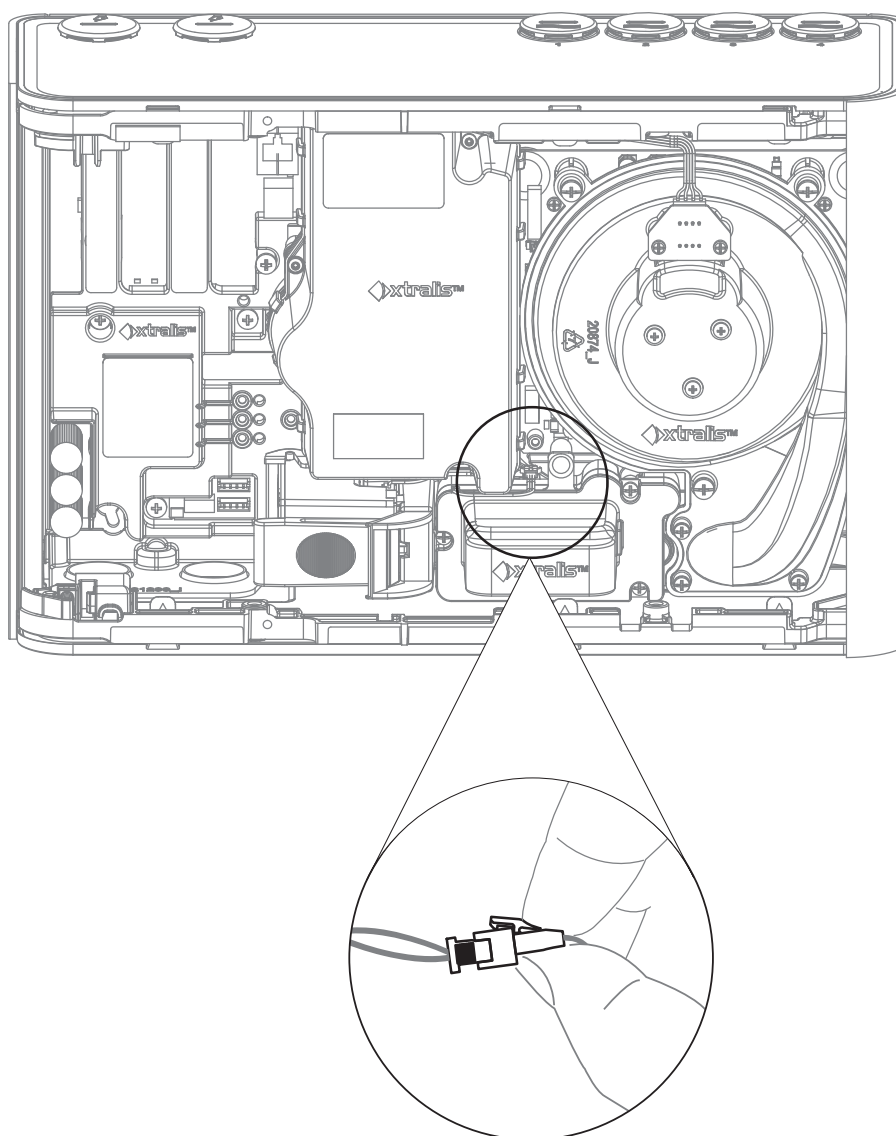

Figure 7-20: Release the Sampling Module cable
4. Press on the lever on the connector to release the catch (Figure 7-20).